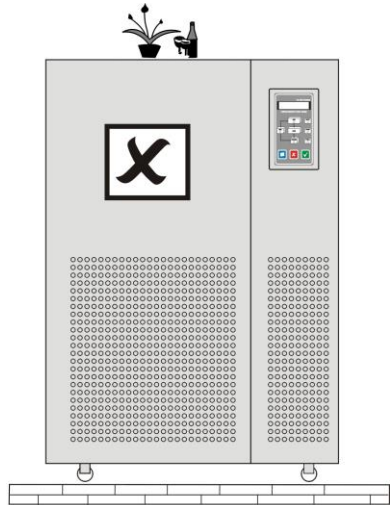

Figure 8
5. Do not place items on top of the UPS. (Figure 8)